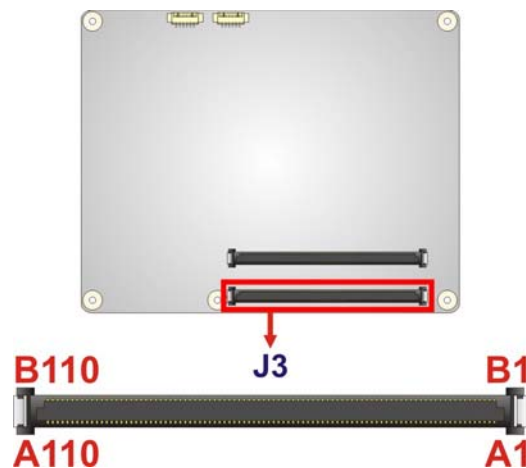

Figure 3-2: COM Express Connector AB Location
- CN Location:** See **Figure 3-2**